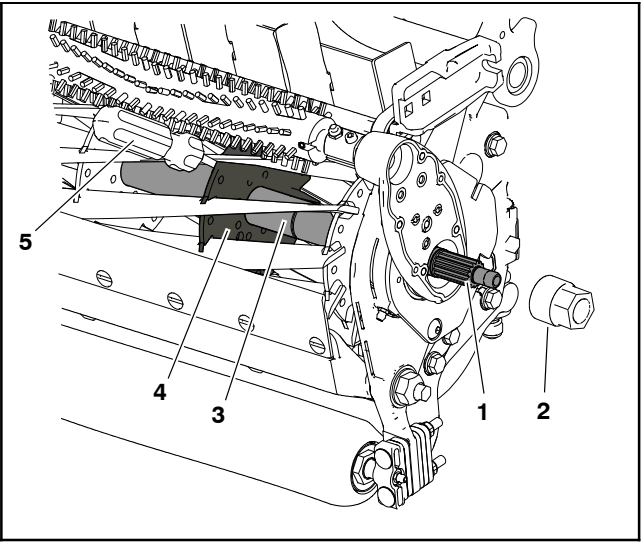

Figure 5
J. Use the drive shaft removal tool (Toro p/n 137-0920) on the large flats of the drive shaft assembly; refer to Fig. 5.